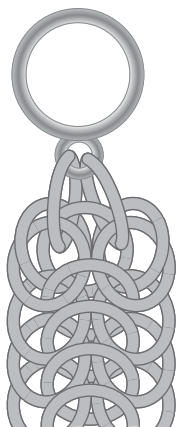

FIG. 1
6. Complete the finishing end of the bracelet using 2 of the 3.5 mm jump rings to attach the loop of the toggle clasp, following the instructions for the Round Maille finishing Method B on page 133 (FIG. 1).